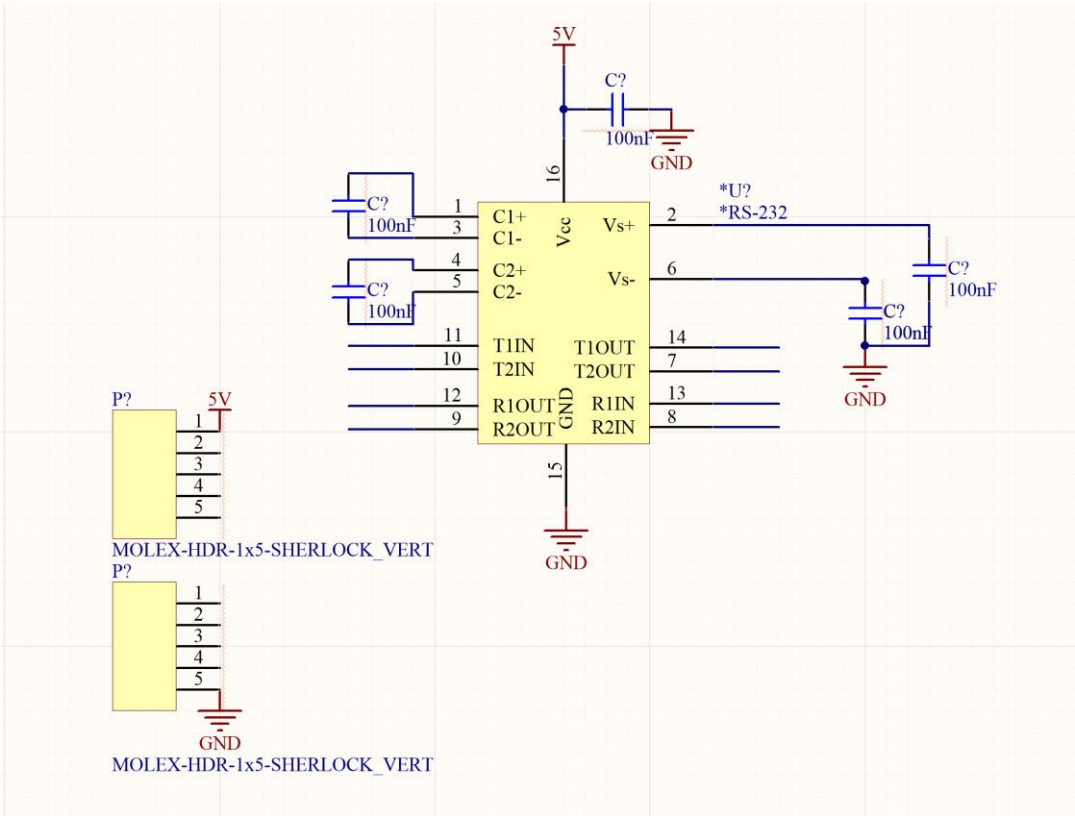

Figure 13: Updated Schematic with Added Wiring
26. Connect your components together as shown in Figure 13. In addition, make sure to add wires to extend the floating pins of your RS-232 chip.